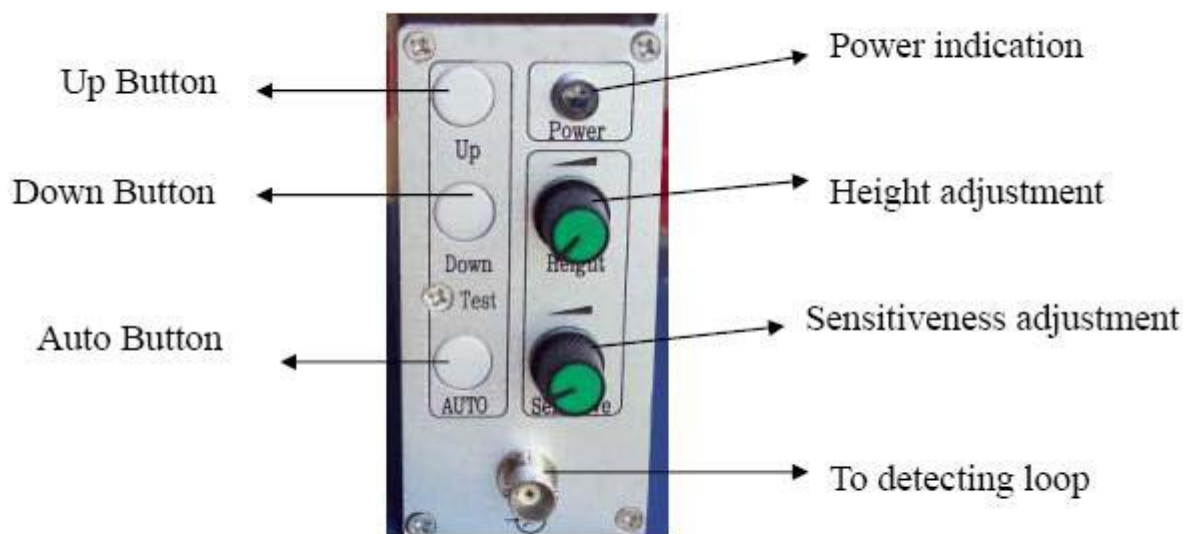

Figure 8 : View of operation panel
1、 The operation panel of HCB2001 as Figure 8 shows: